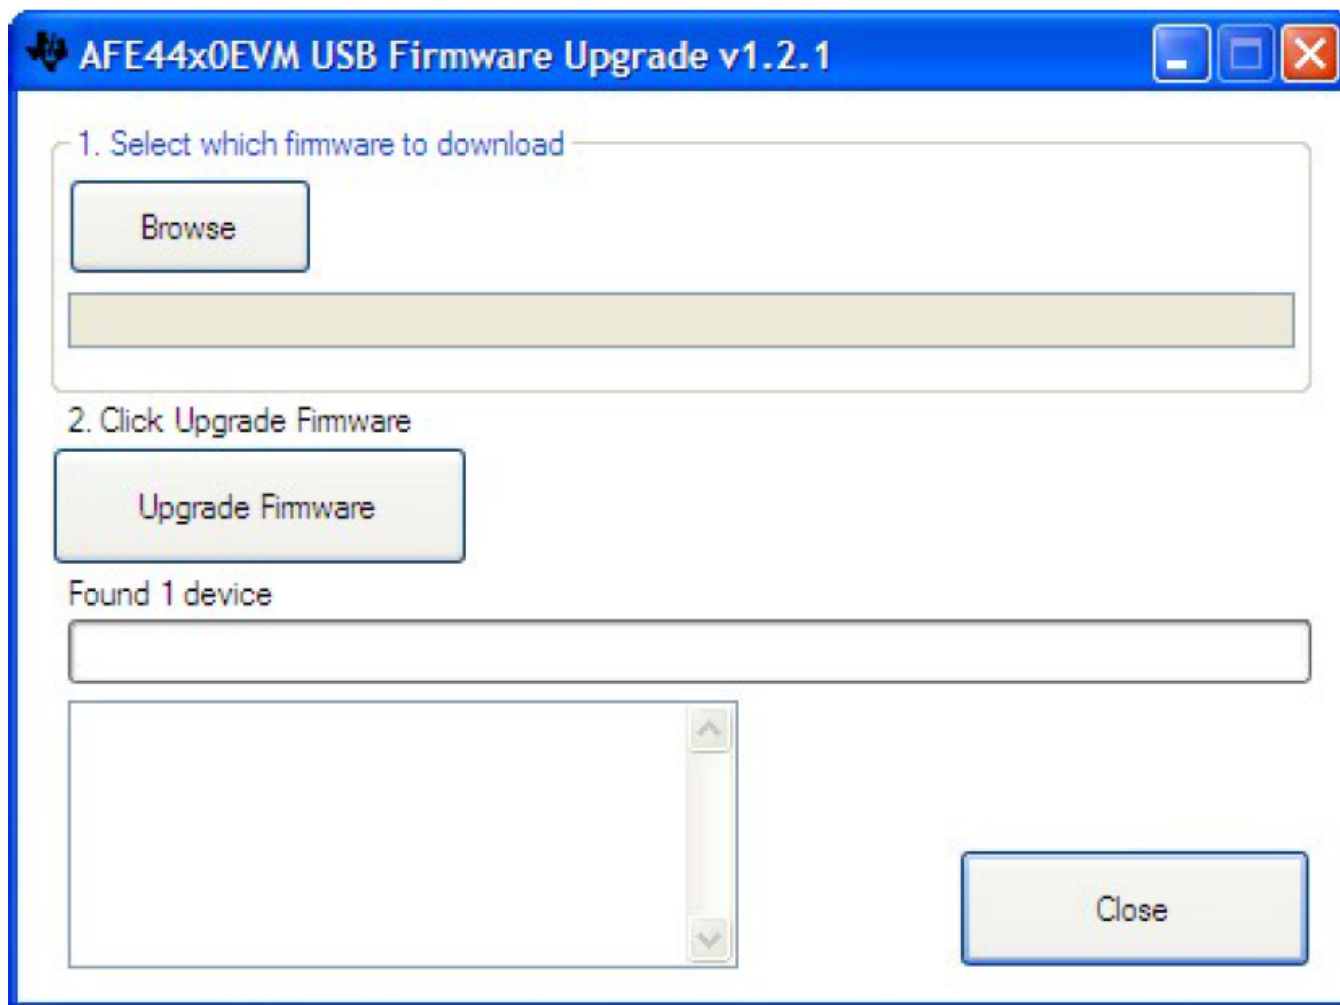

Figure 41. PC Application Firmware Upgrade – 3
- Browse and select the appropriate firmware binary file (example: AFE4404_EVM_FW_V1.0.txt file) and click *Upgrade Firmware* as shown in Figure 41. The default firmware is available from: